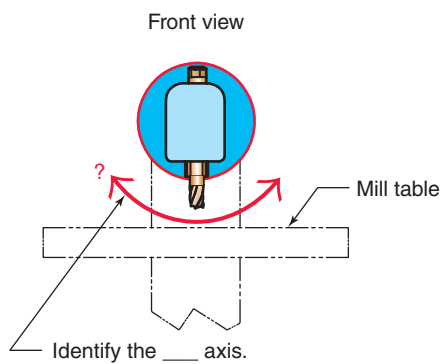

Figure 12-51 Name this rotary setup axis when the mill is viewed from the side.
- Then viewed from the front of the vertical mill, according to the industry standard, what rotary axis is shown in Fig. 12-51?